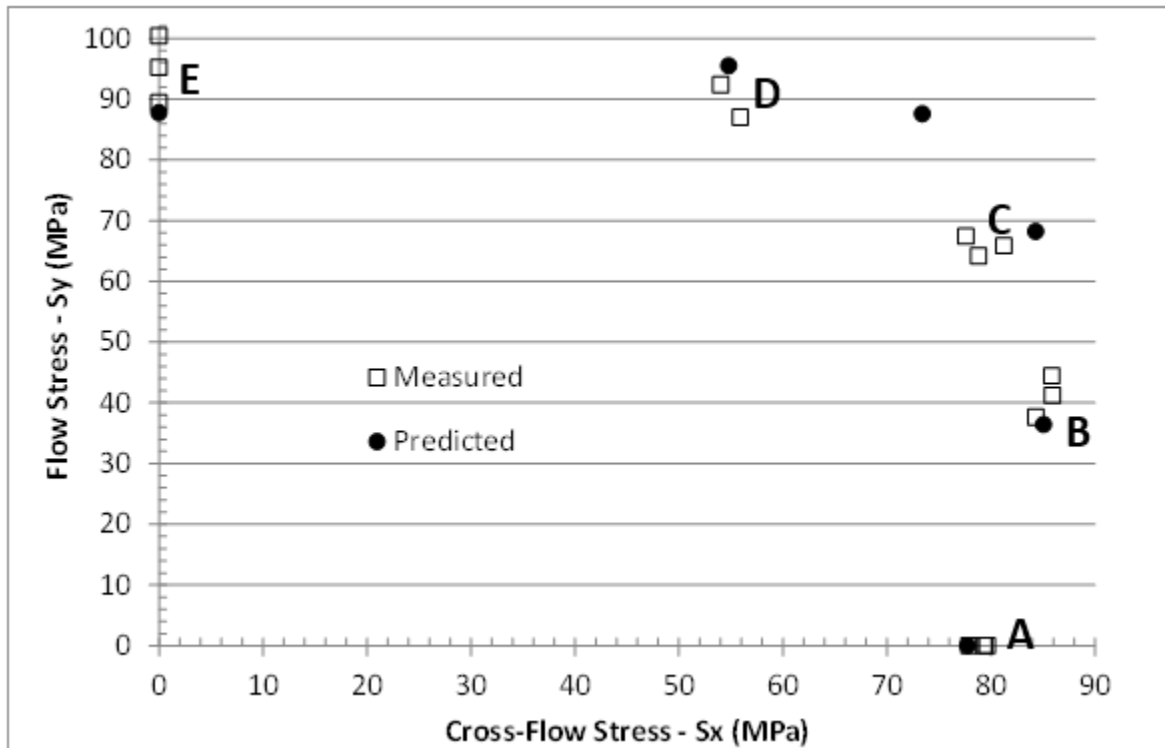

FIGURE 10: EXPERIMENTAL AND SIMULATED STRENGTH VALUES FOR A BIAXIALLY LOADED COUPON TESTED UNDER DIFFERENT LOAD RATIOS
The preferred flow direction in the vertical (Y) direction results in the majority of the fibers aligning in the Y direction. This will present a scenario where not only will the stiffness value be different in the X and Y directions as we have seen previously, but the strength value will vary significantly also. Experimental results for the biaxial coupon tested in various directions are shown in Figure 10.
What you can see in the plot in Figure 10 is that the biaxial coupon is failing at a stress level of 80 MPa when loaded in the cross-flow (X) direction and at a higher value of 95 MPa when loaded in the flow (Y) direction. This is because the fiber alignment in the Y direction increases the strength of the coupon due to the reinforcing behavior of the fibers. This difference becomes even more apparent as the length of the reinforcing fibers increases.